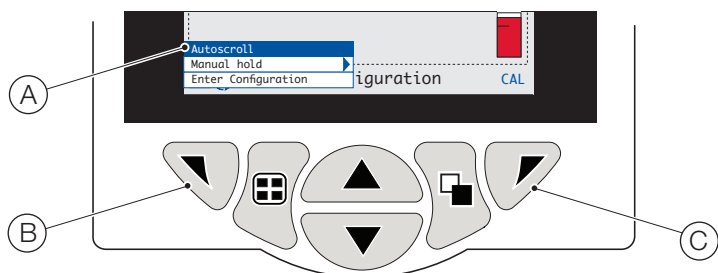

Fig. 6.2 Operator menus
The transmitter has 4 modes of operation – all modes are accessed from the *Operator* menu – see Fig. 6.2.
Referring to Fig. 6.2, *Operator* menus (A) are accessed from any *Operating*, *View* or *Log* page by pressing the ▽ key (B).
When multiple wet-sections are fitted and, if *Autoscroll* is selected from the *Operator Menu* (see Fig. 6.2, page 27), the display scrolls through each available *Operator Page* consecutively.